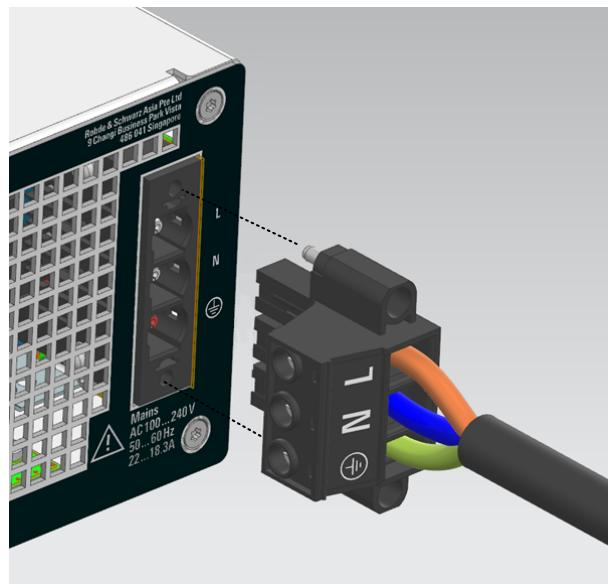
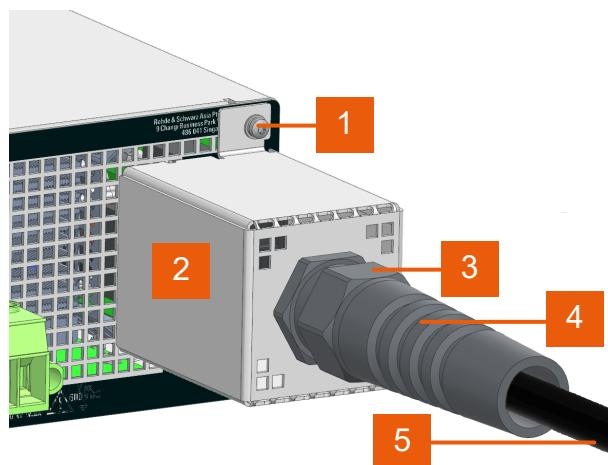

Figure 3-5: Connect AC terminal plug to R&S NGT3600
Figure 3-6: Power connection to R&S NGT3600
5. Wire the power cable line to the AC terminal block plug, disconnect device and AC mains. See "Disconnect device for AC connection" on page 38 and Figure 3-5.
6. Connect the AC terminal block plug to the AC power supply of R&S NGT3600. Tighten the screws on the AC terminal block plug to secure the connection to R&S NGT3600. See Figure 3-5.
8. Remove the two screws at the rear panel (see Figure 3-5) and align the cable cover assembly over the screw points. See Figure 3-6.